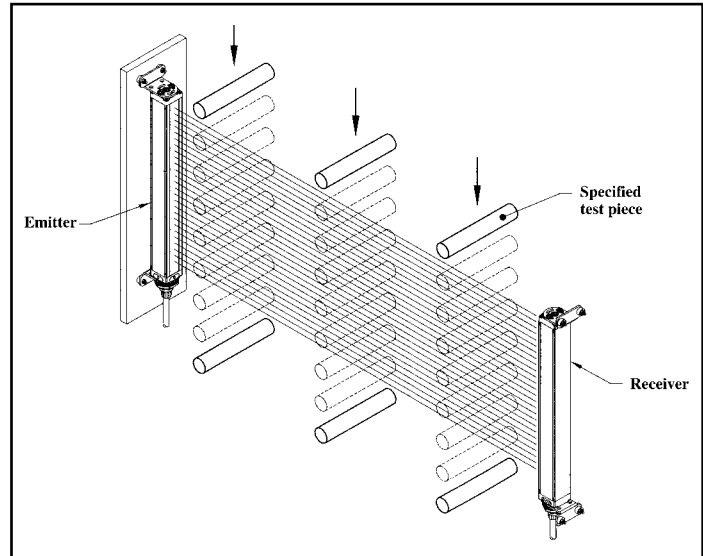

Figure 29. Use of Test Piece
- b) With the guarded machine at rest, pass the *specified test piece* (supplied with the control box) downward through the defined area at three points: close to the receiver column, close to the emitter column, and midway between the emitter and receiver columns (figure 29). In each case, the red indicator must come "on" and the green indicator must go "off" and remain "off" for as long as the test piece is within the defined area. If the green indicator comes "on" at any time when the test piece is within the defined area, check for reflective surfaces or unguarded areas created by use of fixed blanking, and do not continue until the cause is discovered and the situation is resolved.
- a) Verify that the MINI-SCREEN System is in the RUN mode (green and yellow Status Indicator LEDs "on"). See Section 4.3 for RESET procedure. Refer to Figure 29.